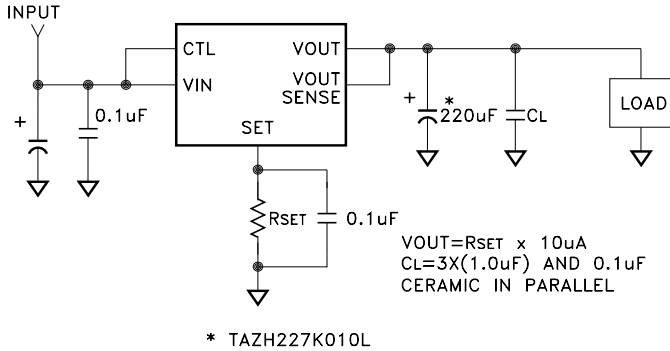

FIGURE 1
- Output is decoupled to ground using a 220µF tantalum low ESR capacitor in parallel with 3 pieces of 1.0µF and one 0.1µF ceramic capacitor unless otherwise specified. (See Figure 1)